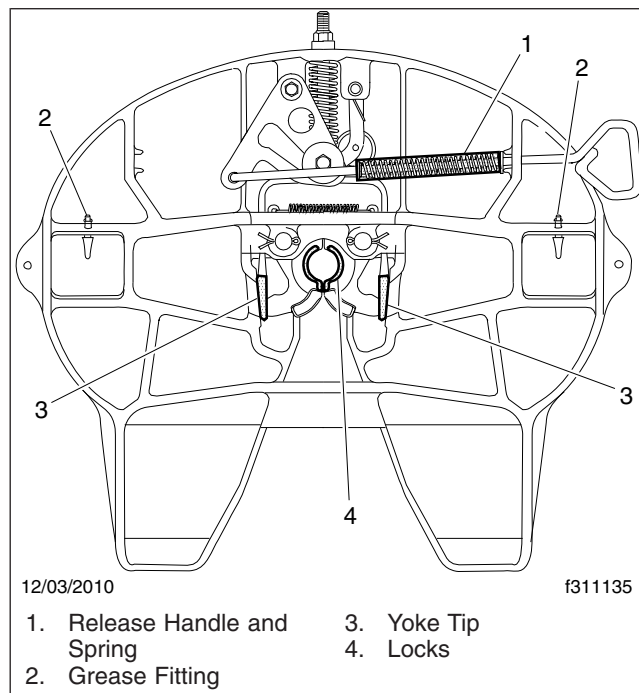

Fig. 10, Holland FW35 Fifth Wheel, Grease Lubrication
3. Grease the yoke tips, locks, and the release handle and spring; see **Fig. 10**. Grease the mounting bracket supports through the grease fittings. A "low temp" grade grease rated for -30°F (-34°C) or lower such as Cato Oil and